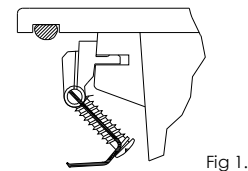

Fig 1.
7. Apply a generous continuous bead of silicone into the channel around the underside perimeter of the sink (fig 1).